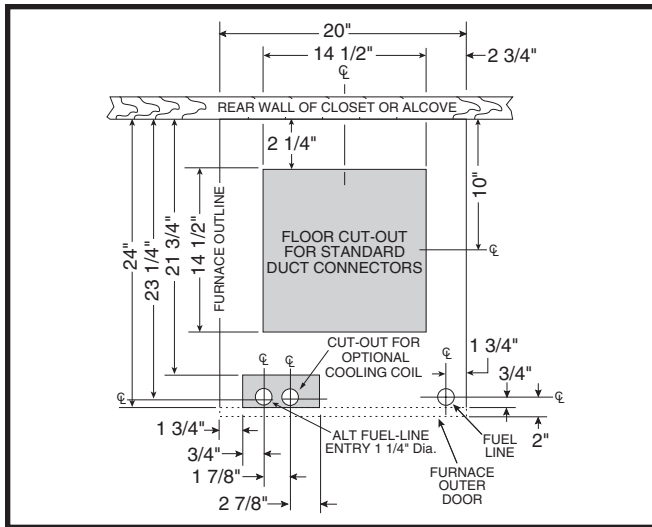
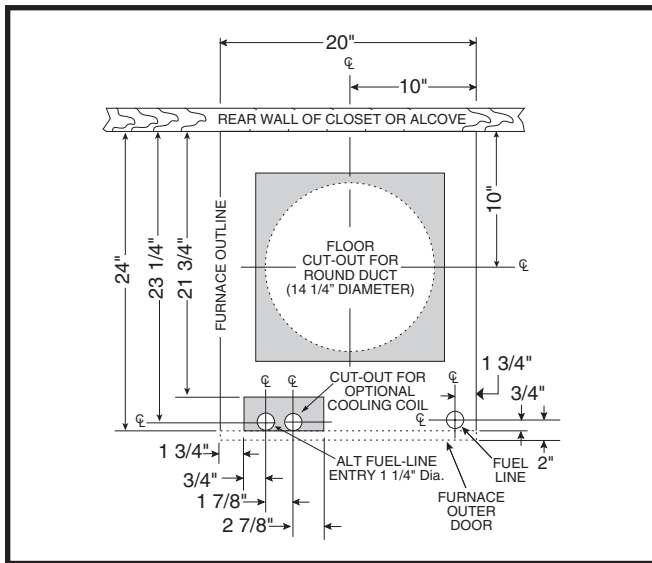

Figure 6. Cut-Out Dimensions for Standard Duct Connectors
Figure 7. Cut-Out Dimensions for Round Duct Connectors
Floor cut-outs and fuel line holes must be carefully located to avoid misalignment of the furnace, and vent piping. To locate standard ducts see Figure 6 (page 8). For round ducts, see Figure 7 (page 8).
- Using the centerline as a starting point, draw the rest of the duct cut-out to the dimensions shown in Figure 6 or Figure 7.
- Measure and drill gas hole and cut out for cooling coil (if applicable). See Figure 6 or Figure 7.